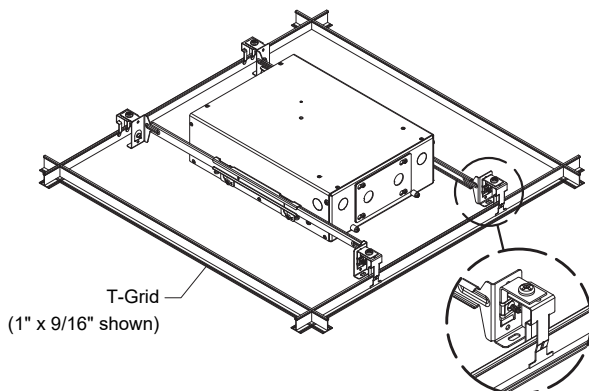

FIG 5.5 Attach to T-Grid
STEP 4 Determine cut-out location in Ceiling Tile and ensure sufficient clearance for housing installation. Locate & cut hole in Ceiling Tile (refer to Trim Types and hole sizes specified on Pages 7-8). Install Ceiling Tile into T-Grid - **FIG 5.5**.
STEP 5 Attach fixture to T-Grid and adjust horizontal fixture position so Housing aperture is centered with Ceiling Tile opening. Lock fixture into place by tightening the Bar Hanger Lock Screws - **FIG 5.5**.